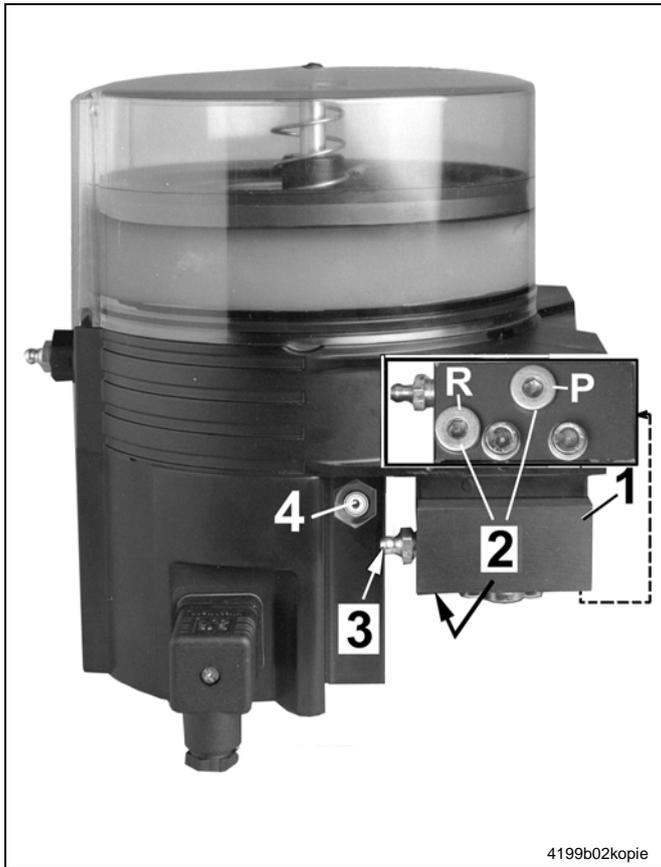

Fig. 19 QLS 301 without mounted SSV metering device with connection for external SSV metering device KN QLS
- SSV metering device back-mounted (see Fig. 19)
- When all lubrication points have received lubricant, an internal proximity switch (pos. 1, fig. 19, initiator) turns the motor off, completing one operating cycle.
If the QLS 301 is not provided with an attached SSV metering device but with an external SSV KNQLS (see Fig. 19, page 18), the proximity switch (of the SSV KNQLS) switches the motor off.